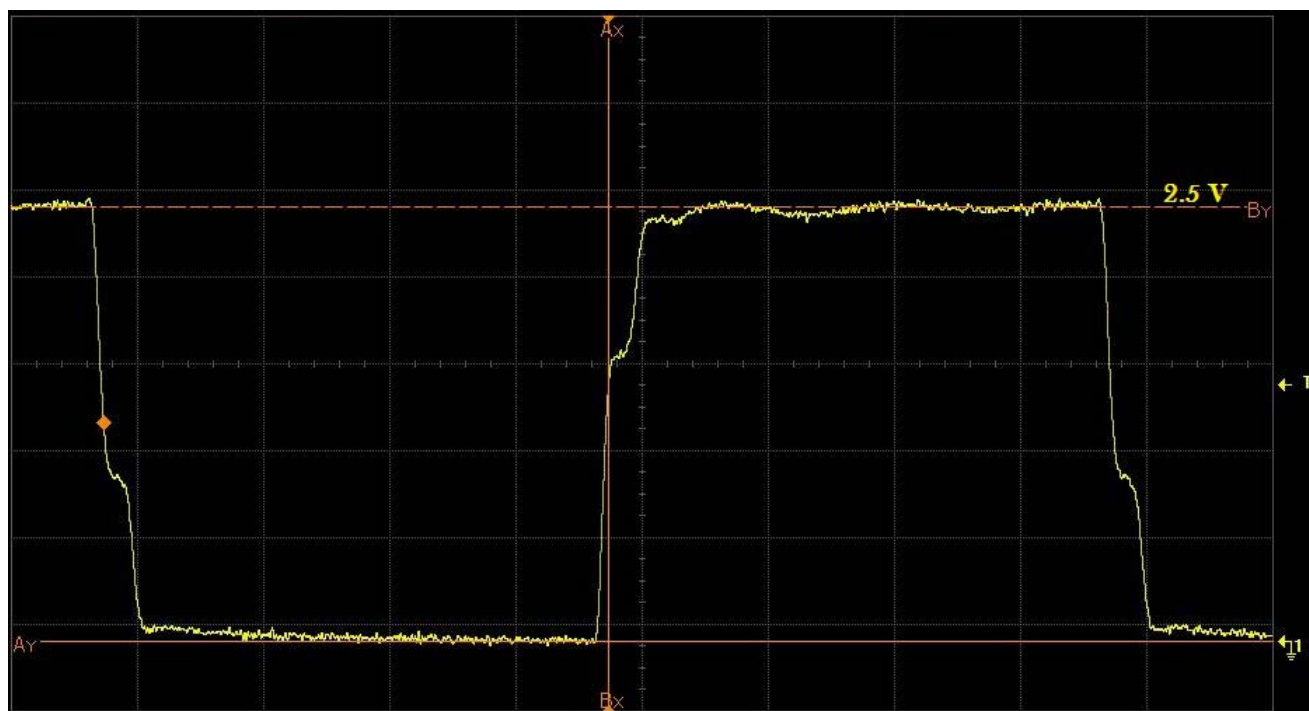

Figure 4. Rev A device (75  $\Omega$  Driver) into 50  $\Omega$  Trace
- Figure 4—Rev A device (2.5 V, 75  $\Omega$  driver) driving a 50  $\Omega$  trace
Note that the first two waveforms look ideal, but in the case of the 75  $\Omega$  driver into a 50  $\Omega$  trace, there is a stair-step at approximately 70% of the positive edge (and about 30% of the negative edge). This is due to reflections caused by the driver-to-trace mismatch. Some amount of reflection is acceptable, but reflection that causes a stair-step in the logic transition zone, as is the case in Figure 4, add to the uncertainty of the transition zone resulting in higher jitter than expected. If jitter is a concern in your application, please follow the impedance matching guidelines in the preceding sections.